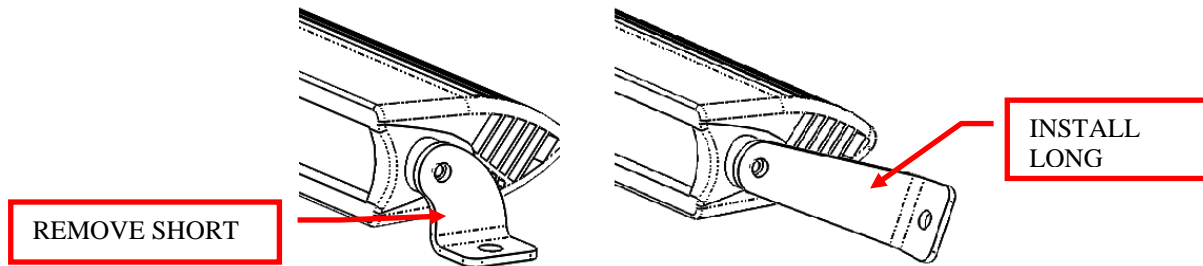

Figure 11: Replace the light bar bracket.
12. Replace the short light bar brackets with the long light bar brackets provided separately. See Figure 11.